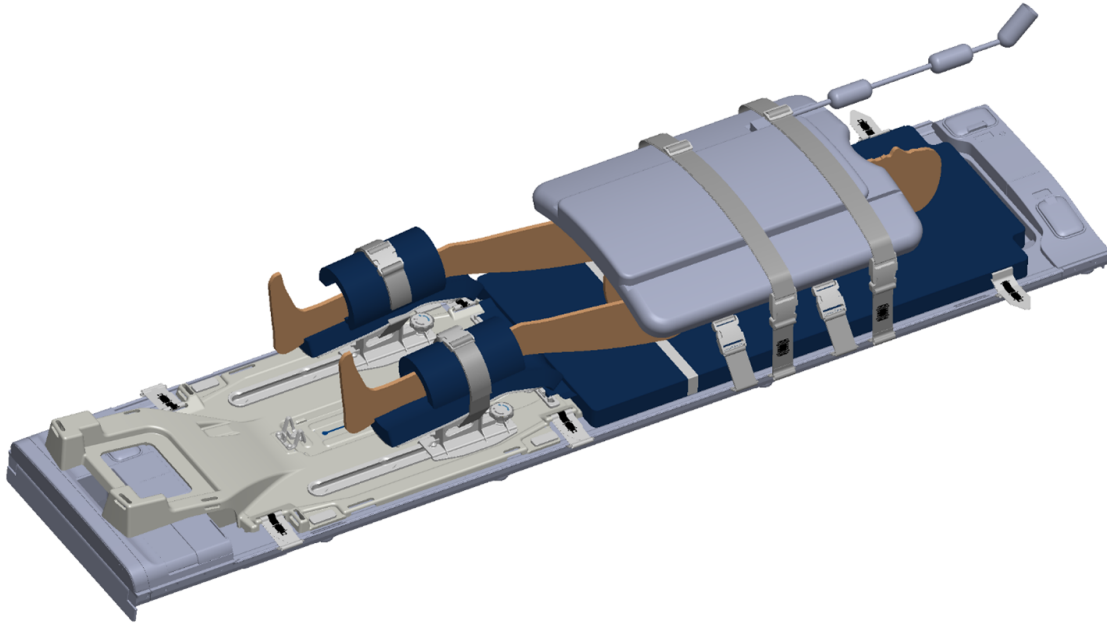

Figure 28: Placement of the anterior imaging coil
3. MRI Technologist: Strap the anterior imaging coil over the patient's pelvis and arms. The coil should cover the prostate, without interfering with the travel of the Positioning System (*Figure 28*).